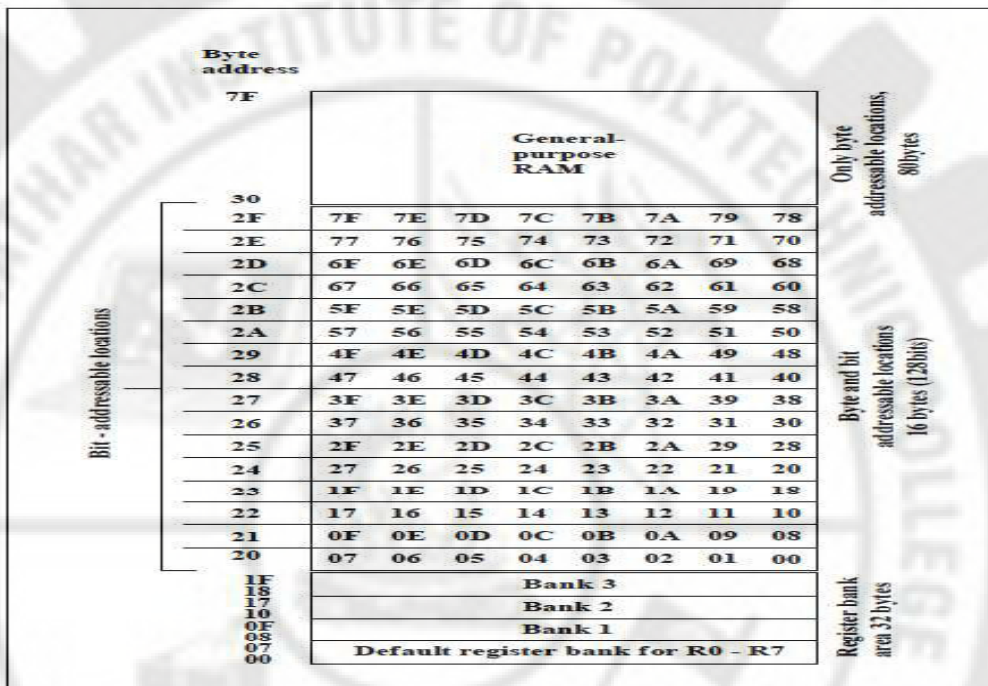

Fig. 3.1 Structure of Internal RAM (Both bit and byte accessible)
- iii) Only byte addressable area totally 80 bytes of RAM from 30H to 7FH. These general purpose RAM area is called Scratch Pad. From fig 3.1 ,we see the structure of internal RAM for Both bit and Byte accessible.